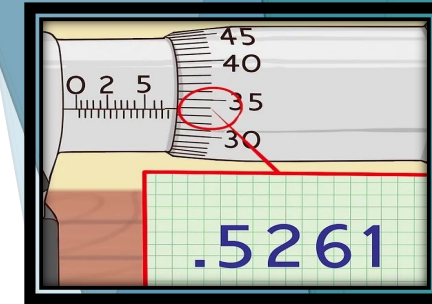

Fig 5
6. Flip the micrometer over to read to the 10 thousandths marking. Read that line that lines closest with the sleeve. If, for example, it lines with 1, then the measurement will read .5261 (FIG 5)